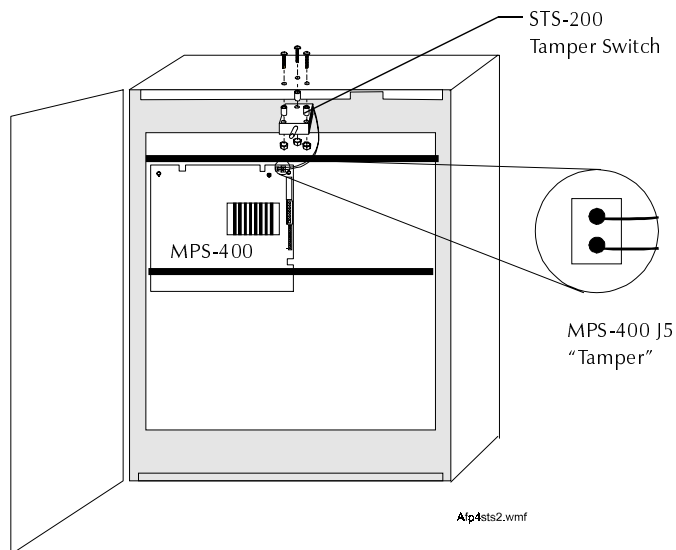

Figure 5-7 Installing the STS-200 Tamper Switch
Wire the cabinet with a security tamper switch kit (Figure 5-7). ADT-CAB-400AA cabinets require tamper switch model STS-200; ADT-CAB-X3 cabinets require model STS-1.
1. Install the STS-200 Tamper Switch onto the ADT-CAB-400AA as shown in Figure 5-7.